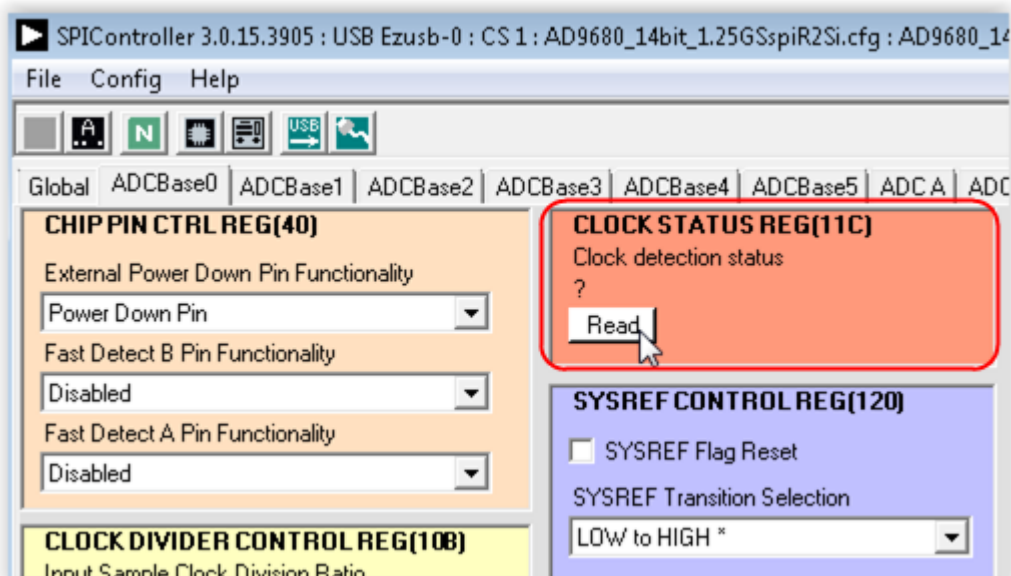

Figure 17. Clock
- Ensure that the clock to the ADC is supplied. Using SPIController **ADCBase0** tab the status of the clock can be read out. See figure 17.